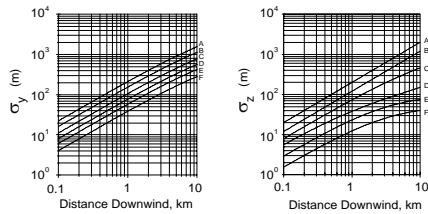

Fig. 5-10
2. Use Figures 5-10 or 5-11 to get x .
3. Determine σ_y from Figures 5-10 or 5-11.
From Figure 5-10, $\sigma_y = 130$ m
From Figure 5-10, $\sigma_z = 120$ m
At this location, from Figure 5-10: